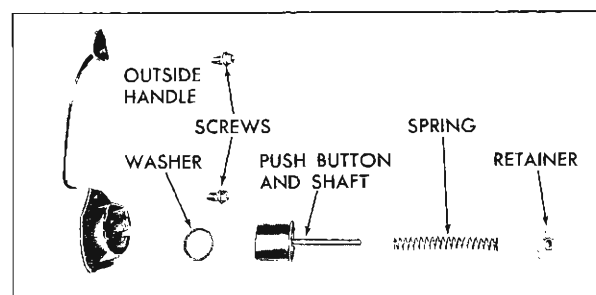

Fig. 3-6 Front Door Outside Handle
3. To assemble, reverse disassembly procedure (see Fig. 3-6).